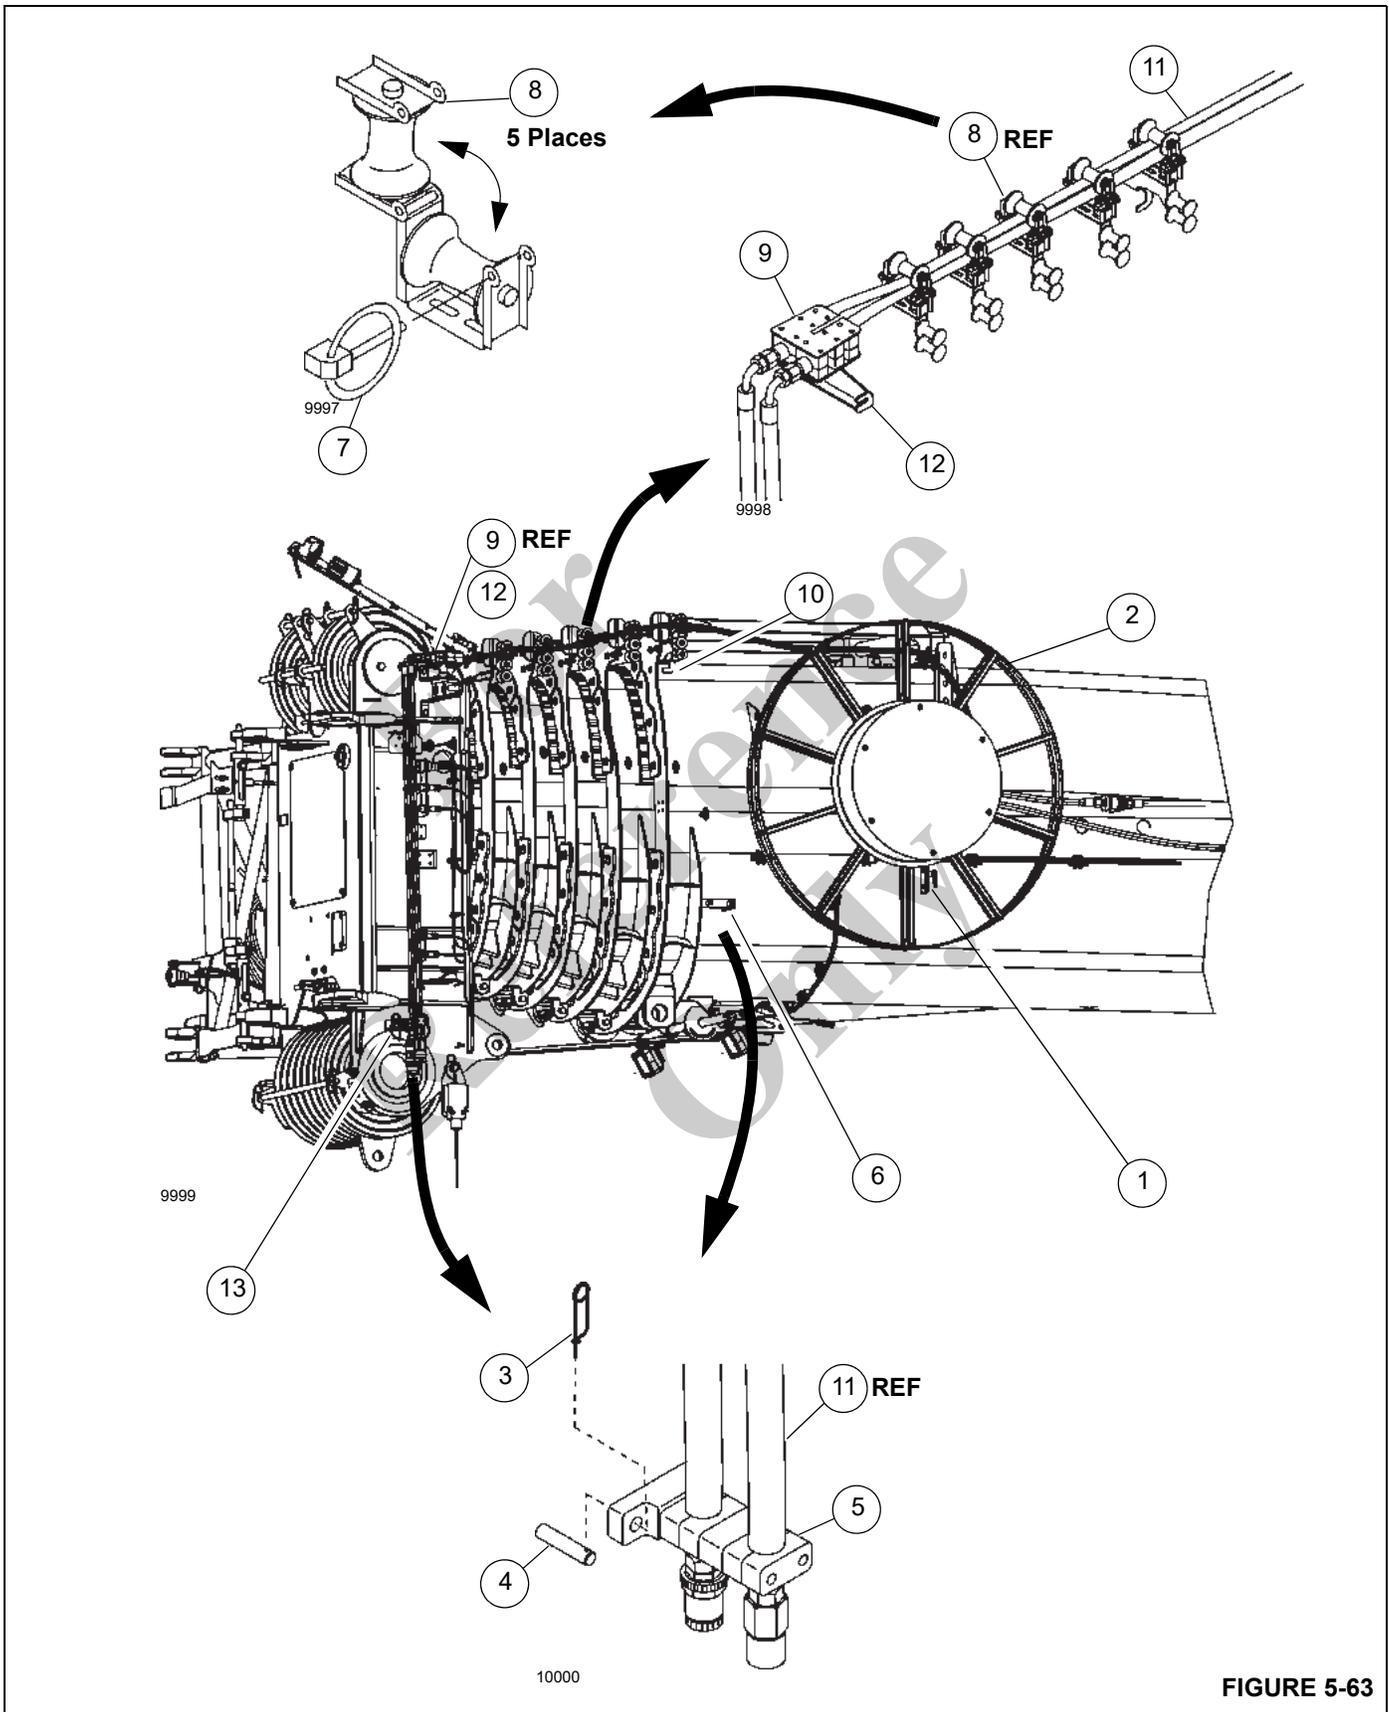

FIGURE 5-63
If the strain relief bracket (9, Figure 5-63) is detached after the locking device has been released, do not under any circumstances let go of the strain relief bracket before it has been re-attached. If you let go of the strain relief bracket, the hydraulic hoses will spring back uncontrollably due to the spring force in the hose drum and may injure persons or damage parts of the crane.
1. Disengage the latch (1, Figure 5-63) to unlock the hose drum (2).
2. Remove the retaining clips (3) from pins (4) and hose end bracket (5) from the boom base section stowage bracket (6).
3. Remove the pins (7) and fold up the guide sheaves (8).
4. Remove the strain relief bracket (9) from its boom base section mounting bracket (10) and pull the hydraulic hoses (11) towards the boom nose.
5. Hook the strain relief bracket (9) onto the boom nose mounting bracket (12).
6. Install the hose end bracket (5) on the boom nose stowage bracket (13) with retaining clips (3).
7. Fold down the guide sheaves (8) and secure them with the pins (7).
1. Make sure the locking device is unlocked (1, Figure 5-63) and the hose drum (2) can rotate.
2. Remove pins (7) and fold up the guide sheaves (8).
3. Remove retaining clips (3) from pins (4) and hose end bracket (5) from boom nose stowage bracket (13).
4. Detach the strain relief bracket (9) from the boom nose mounting bracket (12) and attach it to the boom base section mounting bracket (10).
5. Install hose end bracket (5) on boom base section stowage bracket (6). Secure with retaining clips (3).
6. Fold down the guide sheaves (8) and secure them with the pins (7).
7. Lock (1) the hose drum (2).